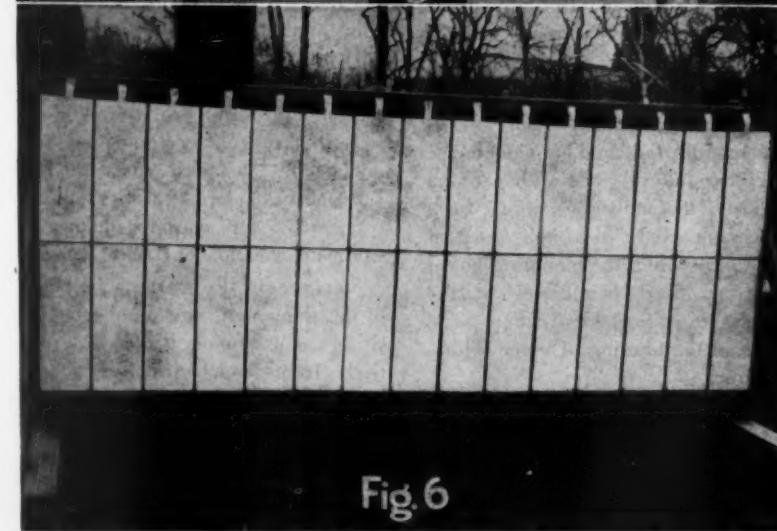

Fig. 6
**Specimens:** Panels six inches wide by eighteen inches long, enameled with one cover coat over ground coat, were mounted as shown in Figure 6. The width of the joints was  $\frac{1}{4}$ ". The horizontal joint between the upper and lower rows of panels and also a small portion of the lower end of the vertical joints of lower panels were filled with a stiff knife-grade caulking compound so as to support the column of gun-grade compound in the vertical joint above.